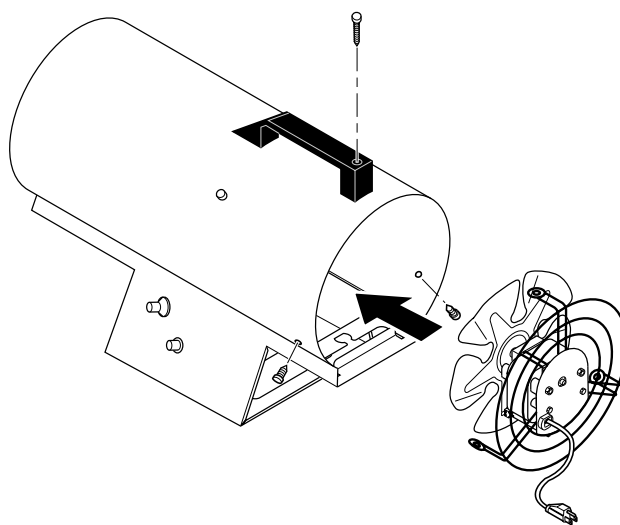

Figure 15 - Replacing Motor and Fan Guard into Heater
8. Place motor and fan guard into rear of heater shell. Make sure power cord is properly located (see Figure 15).